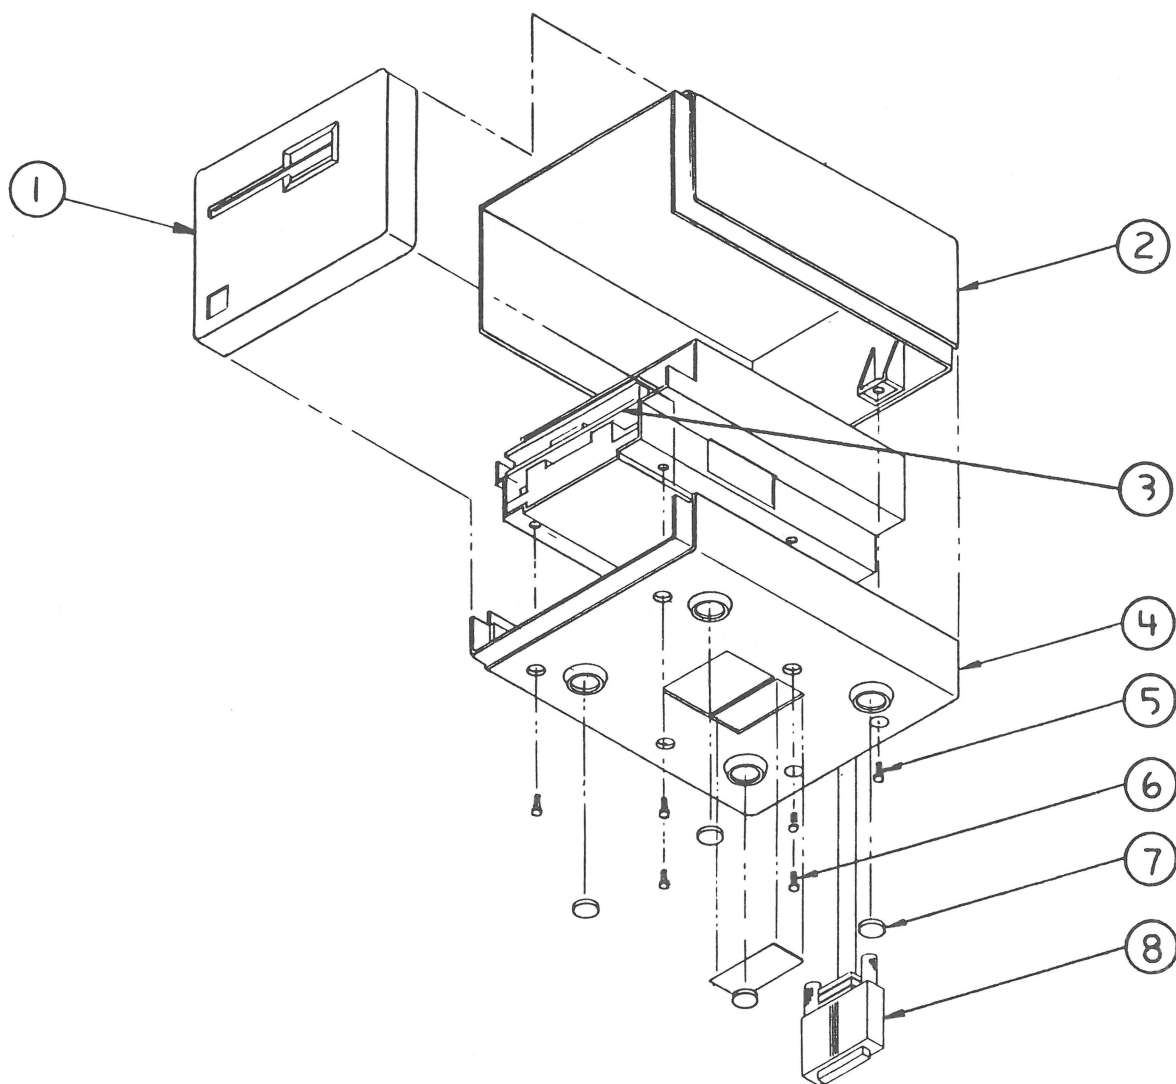

FIGURE 1
(Figure 1)
□ MACINTOSH 400K EXTERNAL DISK DRIVE (Figure 1)